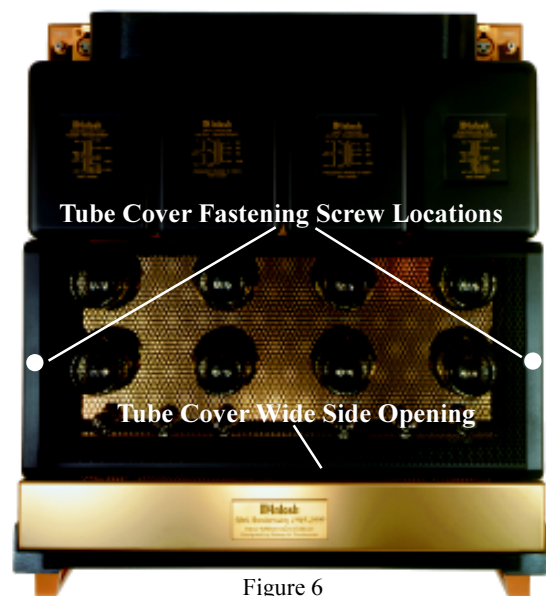

Figure 6
5. Carefully place the Tube Cover onto the MC2000 while at the same time aligning the screws with the openings on the MC2000 Chassis, refer to figure 6.